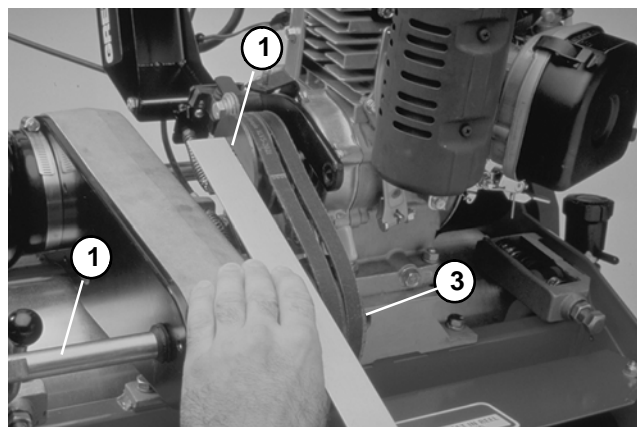

Figure 65
A. Position the engine base to obtain from 5.34 to 5.46 inches (13.6 to 13.9 cm) between the engine output shaft and power shaft center lines (Fig. 65).
B. Align machined face of input power and shaft input pulleys to within a maximum of 0.03 inch (0.76 mm) misalignment (Fig. 65).